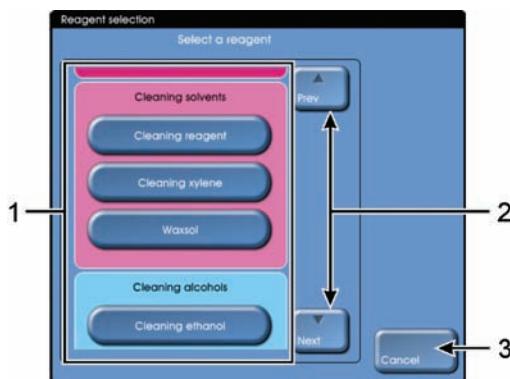

Figure 99: reagent selection dialog box with a available reagent types (1), scroll buttons (2) and Cancel button (3)
3. Use the **Next** and **Prev** buttons (item 9 and 13) to make the required reagent station visible.
4. Select the station's **Type** cell (item 5).
5. The "Reagent selection" dialog box will now appear (see Figure 99).
6. If you do not wish to proceed, select the **Cancel** button (see Figure 99).
7. Use the **Next** and **Prev** buttons to scroll through the list of reagent types (see Figure 99).
8. Select the required reagent type from the list (see Figure 99).